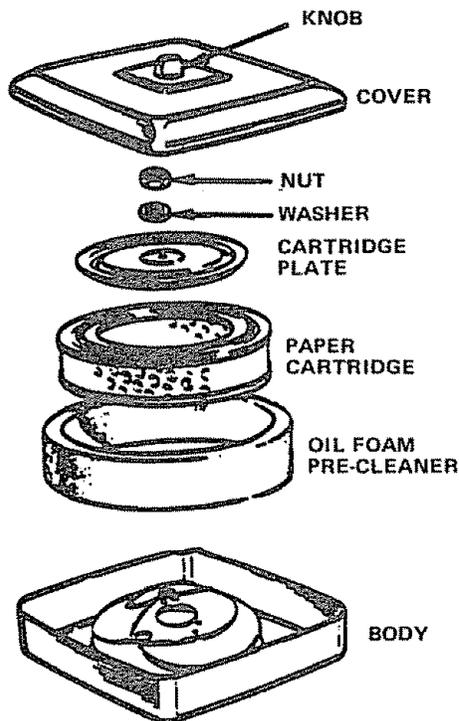

FIGURE 36
- a. Unscrew Knob (Fig. 36) to remove Cover.